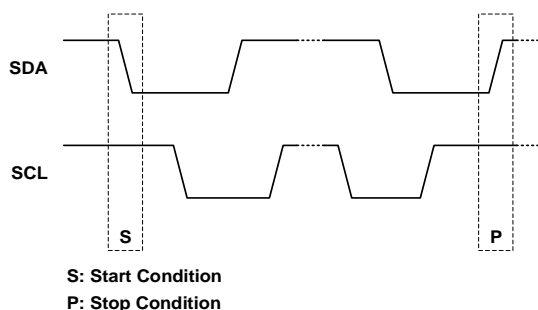

Figure 7: Start and Stop Commands
The start and stop commands are signaled by the master device, which signifies the beginning and the end of the PMBus transfer. The start command (S) is defined as the SDA signal transitioning from high to low while the SCL line is high. The stop command (P) is defined as the SDA signal transitioning from low to high while the SCL is high (see Figure 7).